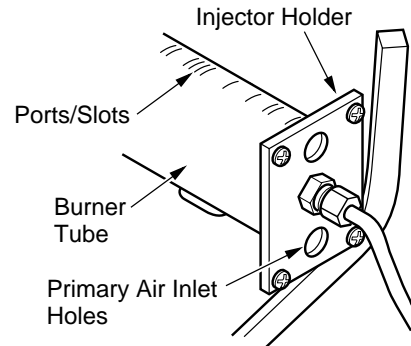

Figure 39 - Injector Holder On Outlet Burner Tube
2. Inspect burner, pilot, and primary air inlet holes on injector holder for dust and dirt (see Figure 39).